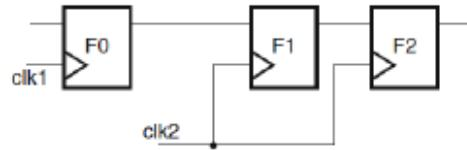

Fig. 1 2FF synchronizer
1. (a) Fig. 1 shows the basic 2 Flip-Flop synchronizer block diagram. Explain why a synchronizer is required in clock domain crossing (CDC) circuit. (5%)
When the frequency of clk1 and clk2 are different, the clock skew between clocks varies with time. The skew leads to a problem that sometimes **setup / hold check will be violated**, and sometimes not. This will cause the receiving flip-flop in clk2 clock domain (In Fig.1, it is F1) enter **metastable state**, that the output of the flip-flop is not ideal VDD or GND. If this non-ideal signal is used by the following circuits, the speed will be slower and the power consumption will be large. Even worse, the functionality will be wrong. With 2 Flip-Flop architecture in Fig. 1, even when the flip-flop F1 is possibility in metastable state, the flip-flop F2 will not. Thus the previous problem can be avoided.
(b) Fig. 2 shows the pulse synchronizer which we used in Lab07. Different from the synchronizer in Fig. 1 which can pass a value, the pulse synchronizer can pass a pulse. Try to complete the following timing diagrams to verify it can pass a pulse between two clock domains either when clk1 is faster than clk2 (5%) and when clk1 is slower than clk2 (5%).